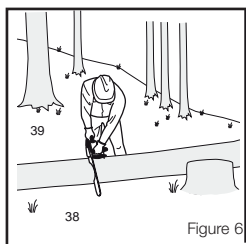

Figure 6
4. When bucking on a slope, always stand on the uphill side of the log. When cutting through, to maintain complete control, release the cutting pressure near the end of the cut without relaxing your grip on the chainsaw handles. (Fig 6)